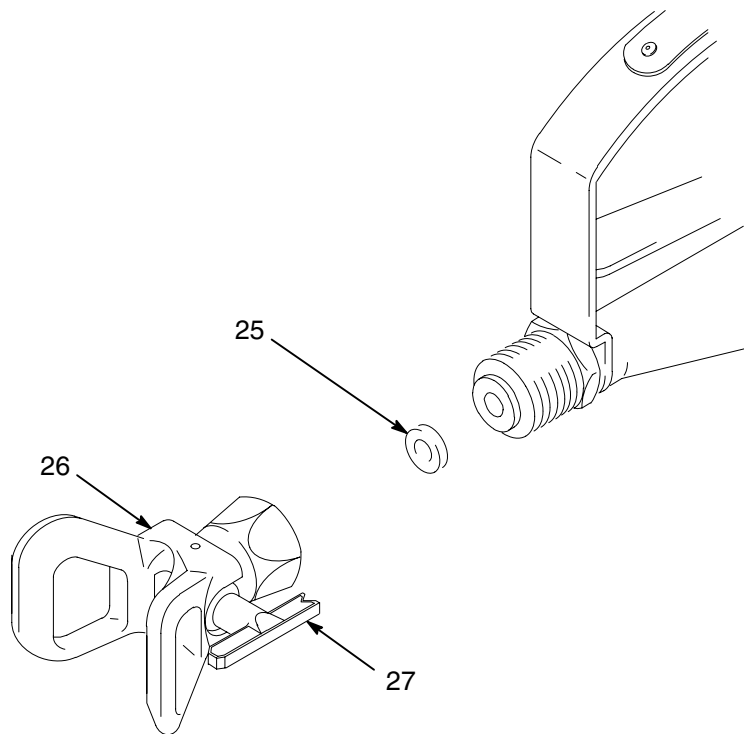

Fig. 1
4. With the gun safety latch engaged, unscrew the retaining nut (B) of the tip/guard assembly (26, 27), and install the gasket (25) in the retaining nut. Screw the tip/guard assembly firmly onto the gun. Tighten with a wrench. See Fig. 1.